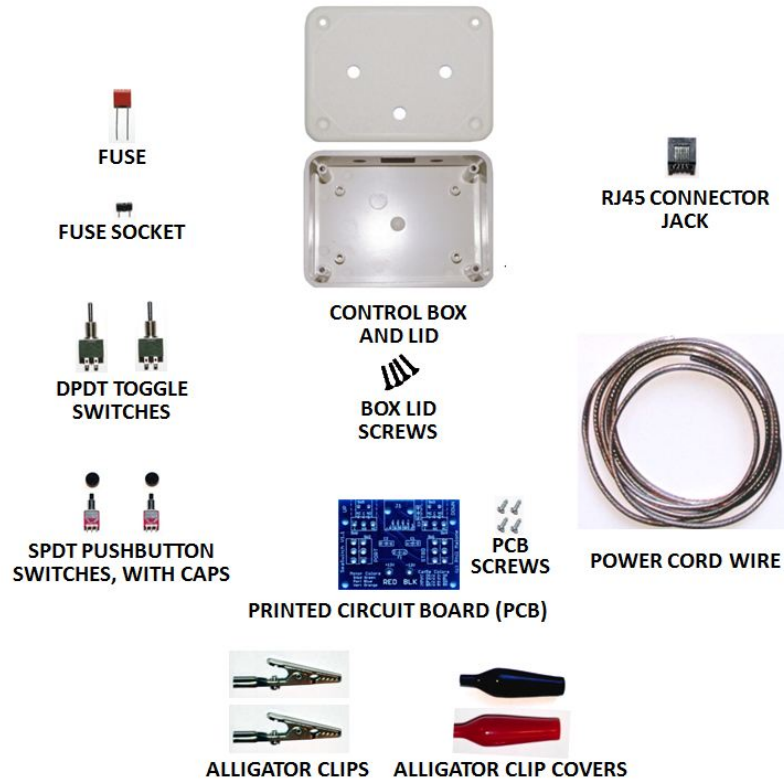

Figure 3.1-1: Electrical Components Required for the SeaPerch ROV Control Box
1. Gather, identify, and inventory the parts needed for the control box, as shown in Figure 3.1-1. Some parts, such as the switches, may look a bit different, but all types of items shown should be in the kit. If any are missing, notify your instructor who may have spare parts.